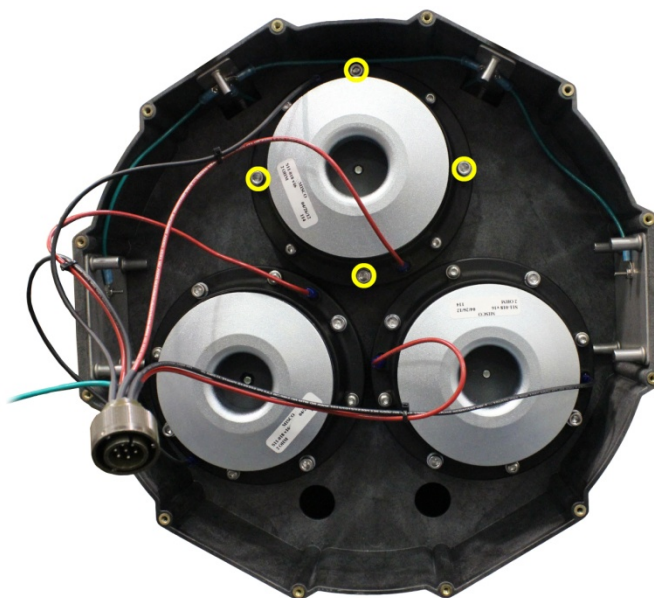

Figure 5.4-2 Transducer Screw Location
4. If wiring is not the issue, unplug the faulty transducer (noting which wire is positive and which is negative) and use a 3/16" Allen wrench to remove the 4 socket head cap screws and pull the transducer from the speaker head. See Figure 5.4-2.